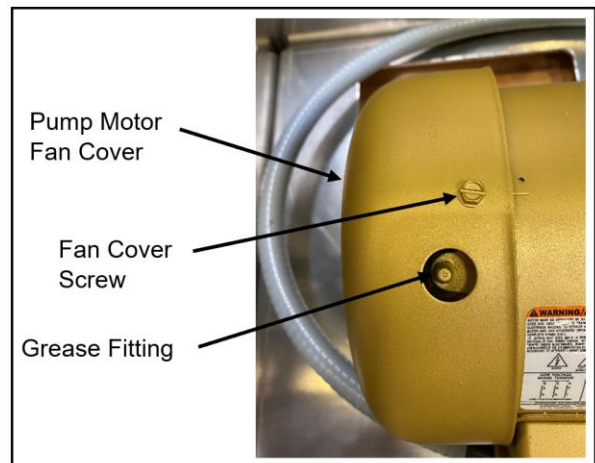

Figure 15-1. Location Of Rear Grease Fitting.
4. Wipe grease away from the grease fittings with a clean cloth. See Figures 15-1 and 15-2 for location of grease fittings.